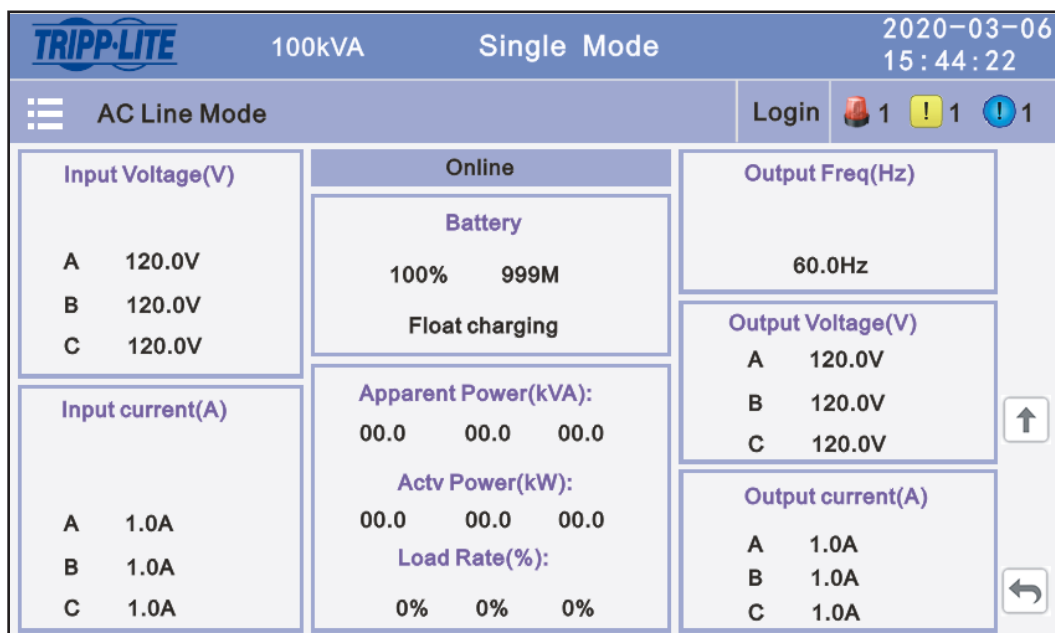

Figure 4-7B: LCD Main Page 2. (Press the Page Up icon to return to the Main Page shown in Figure 4-7A.)
- 11** Page Down - Press to access LCD Main Page 2 (Figure 4-7B)